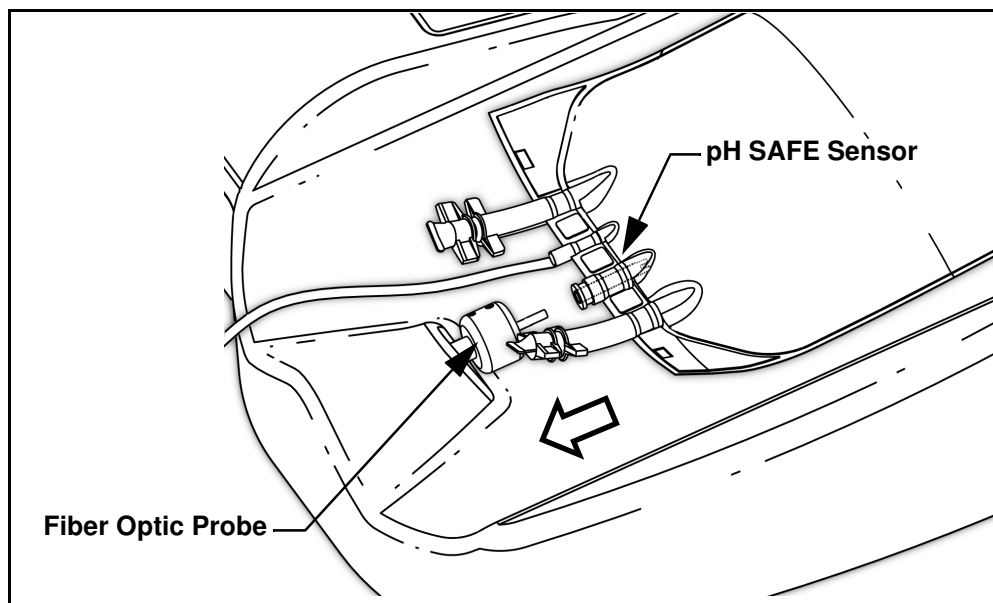

Figure 5-1 Insert Fiber Optic Probe into pH SAFE Sensor
3. Refer to Figure 5-1. Place the platelet storage bag onto the instrument measurement platform and insert the Fiber Optic Probe of the instrument into the opening at the top of the pH SAFE Sensor of the bag.